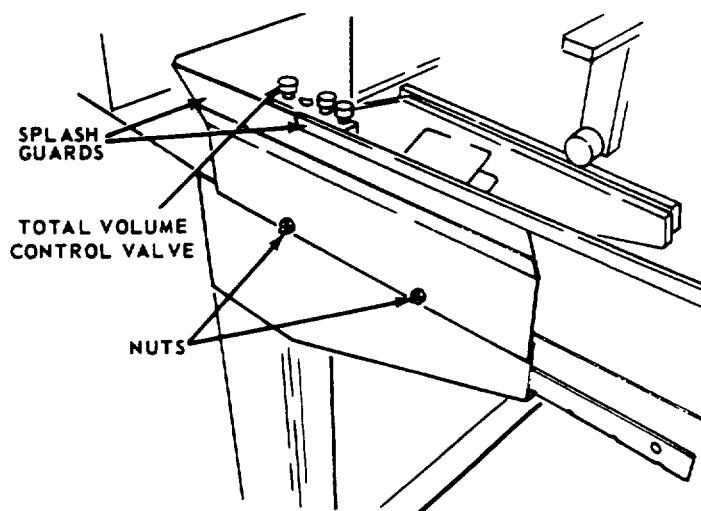

FIGURE 5
- (3) Make sure the rubber gasket is in its groove in the Cover. Open Air Vent.
- (4) Replace Clamp.
- (5) Fill reservoir - easiest way is to pull Work Tray to fully extended position and pour the oil into Tray.
- (6) Point oil jets down toward anti-splash pad.
- (7) Depress HONE START switch to start pump motor and wait a few seconds for oil pressure to build up. As oil fills filter container. Air will escape through Air Vent.
- (8) When oil appears in air vent, close It.
- (9) See Figure 5. Turn Total Volume Control Valve slowly counterclockwise.
- (10) Adjust oil flow to each jet with its individual Oil Jet Control Valve; open Total Volume Valve further as needed. Total Volume Valve may then be used to shut entire supply off, leaving individual settings unchanged.
1-4 INSTALL LEFT-HAND TRAY. (See Figure 5)